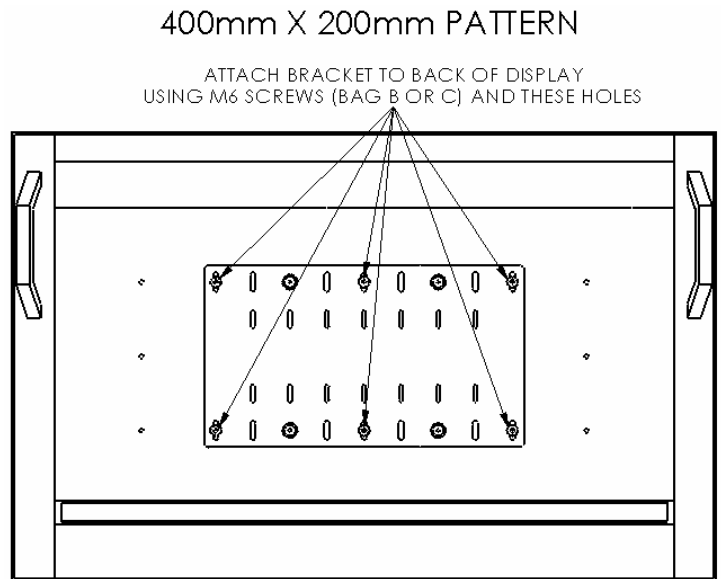

Figure 9. Display with 400mm x 200mm Hole Pattern
2. Attach the MSP-MSBTW1 (10) using the hole-pattern on the back of your display as shown in Figure 9.